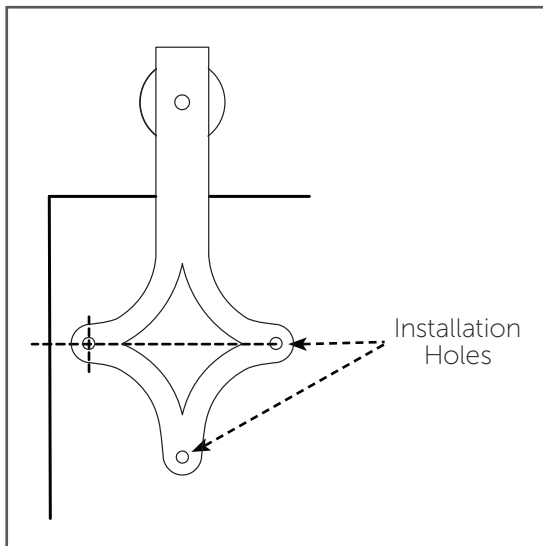

Figure 2
2. Place the hanger on the front of the door facing up with the upper left installation hole over the intersecting mark. Mark the upper and lower installation holes on the door with a pencil (Figure 2).